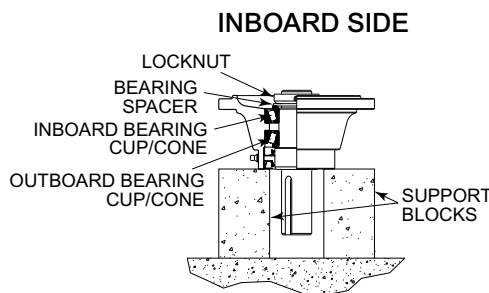

Figure 6.3.2.1 Input Endbell
- Support hub to expose the inboard side of the endbell. Reference Figure 6.3.2.1.